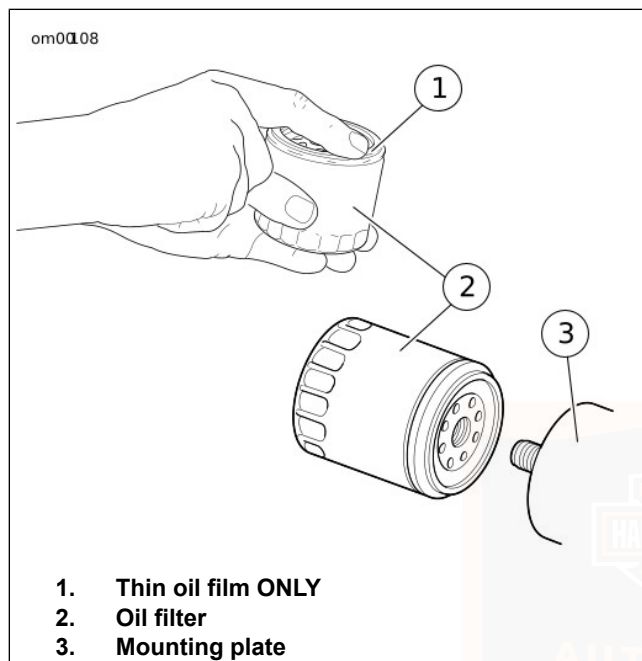

Figure 49. Applying Thin Oil Film
6. See Figure 49. Apply a thin film of oil to gasket contact surface on mounting plate, gasket and new oil filter.